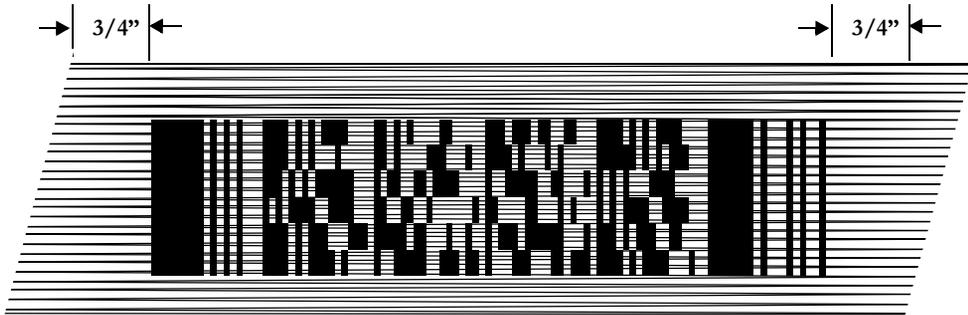

Figure 4-4. Orienting Scanning Pattern On PDF417 Bar Code
- ◆ In all cases, make sure the scan pattern extends *at least 3/4 inch* beyond each edge of the bar code (Figure 4-4).